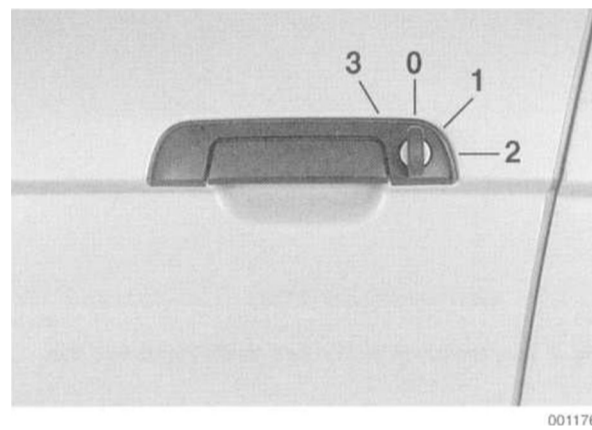

Fig. 1. Door lock cylinder key positions.
5. With ignition key in door lock cylinder, turn door lock to position 3 to double lock doors, trunk lid and fuel filler flap. (A loud click will be heard twice.) See Fig. 1.